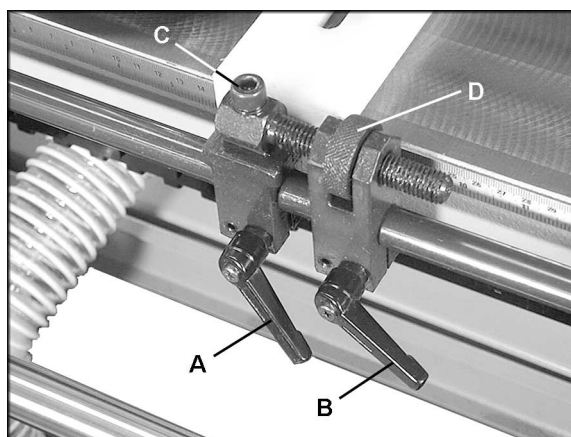

Figure 19
2. For broad movement of the horizontal fence, loosen both locking handles on the horizontal fence (A and B, Figure 19) and slide the horizontal fence into position. Tighten both locking handles (A & B, Figure 19).
3. There is also a micro adjustment on the horizontal fence; loosen locking handle (A, Figure 19), but leave locking handle (B) tight. Loosen the screw (C, Figure 19) with a 6mm hex wrench and rotate the knurled knob (D, Figure 19) as needed for precise positioning of the horizontal fence.
4. When finished, tighten screw (C, Figure 19) and locking handle (A, Figure 19).
NOTE: Make sure locking handles (A & B, Figure 19) will not interfere with the headstock during operation.
6. Again, make sure the locking handles on the horizontal fence (A & B, Figure 19) are tightened. The position of the horizontal fence will now be used as the basis for locating the vertical fence.